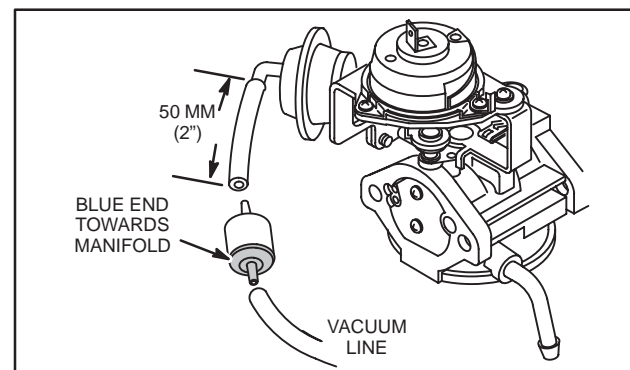

Fig. 55 – Installing Vacuum Limiter
1. Cut vacuum line approximately 50 mm (2") from vacuum break side and install vacuum limiter with blue end facing intake manifold, Fig. 55.